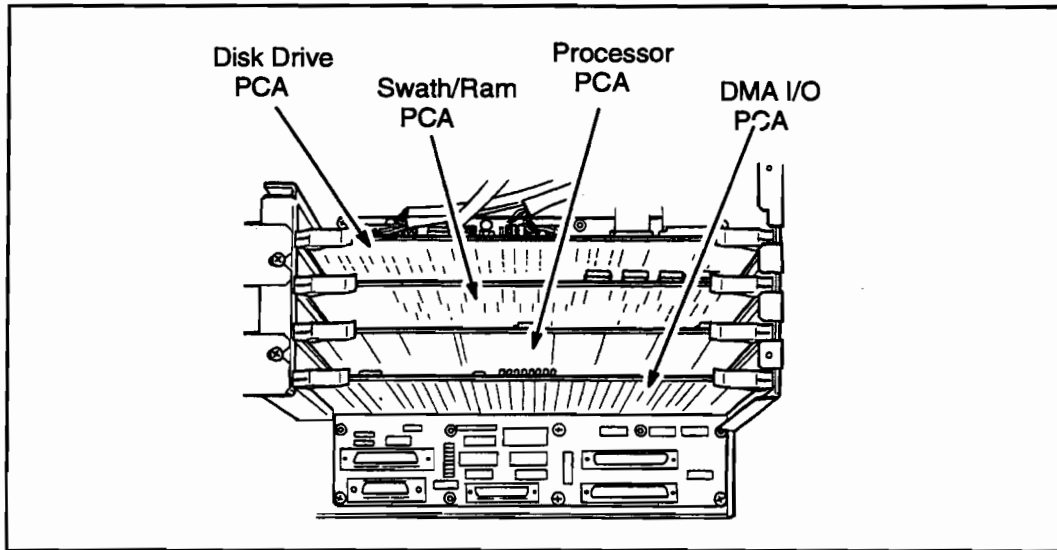

Figure 6-95. VRC PCA Removal
5. Remove the desired PCA. See Figure 6-95.